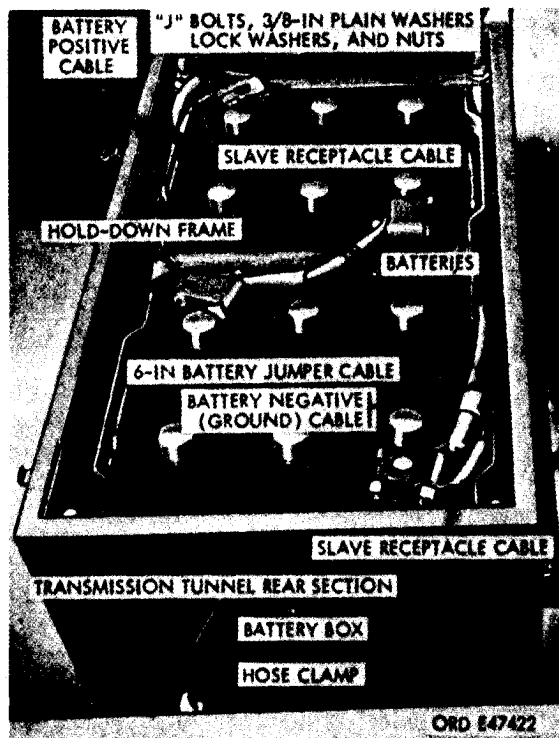

Figure 633. Battery box with batteries installed
- (11) Place all battery cables out of the way and install the two batteries in the battery box, with the positive (+) terminal posts toward the front, as shown (fig. 633).
- (12) Install the original hold down frame over the batteries and the "J" bolts and secure with the 3/8-inch plain washers, lockwashers, and nuts (fig. 633).
- (13) Install the terminal post lugs on the battery posts and connect battery cables to the lugs on the batteries (fig. 633).
- (14) Connect the original 6-inch battery jumper cable to the positive (+) and negative (-) terminal posts of the batteries (fig. 633).
- (b) Remove the hose clamp from one end of the 83-inch coolant hose (Q, fig. 625) working from right-hand side of engine, pass the end without the hose clamp between the exhaust manifold end the engine block, rearward underneath the tunnel to the left of the gear shift lever (fig. 642), between the transfer and winch levers under the transmission tunnel rear section, through the hole in the right side of the transmission tunnel rear section and hose clamp (fig. 633) and slip end of hose on hose connection of battery heating pad. Connect forward end of coolant hose to the shutoff cock on aquastat (fig. 641). Tighten hose clamps (figs. 633 and 641).
- (5) Coolant hoses from heaters to engine block.